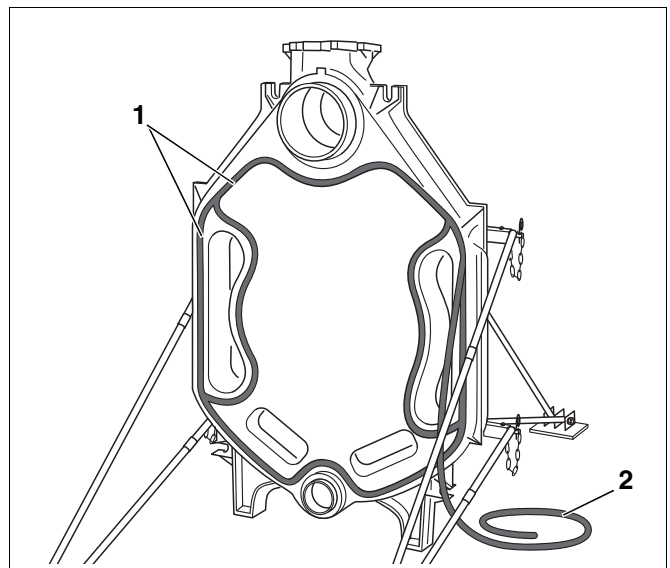

Fig. 16 Inserting packing cord (KM cord)
- ▶ Insert the flexible packing cord (KM cord: Fig. 16, [2]) on the front of the rear section, starting around the upper hub, into the packing grooves (Fig. 16, [1]) and press in lightly. At the butt joints, overlap the packing cord by approx. 2 cm and press firmly together.